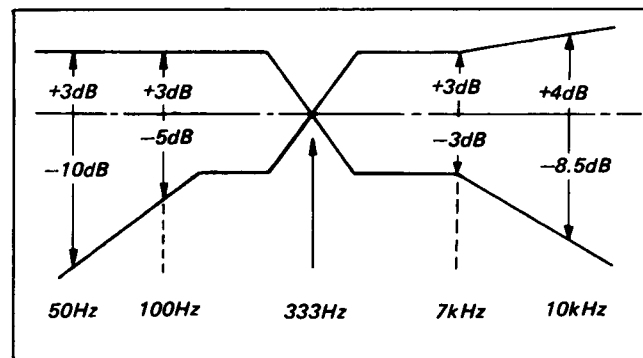

Fig. 5-29.
- (1) Connect a 333Hz signal
- (2) Set up the E-E mode and adjust the oscillator output level so that the level meter reading is -30 dB.
- (3) Record signals.
- (4) Change the frequency to 50Hz, 100Hz, 333Hz, 7kHz, and 10kHz and repeat Steps (2) and (3).
- (5) Playback the recorded section of the tape and verify that the level is within the specification. (See Fig. 5-29)